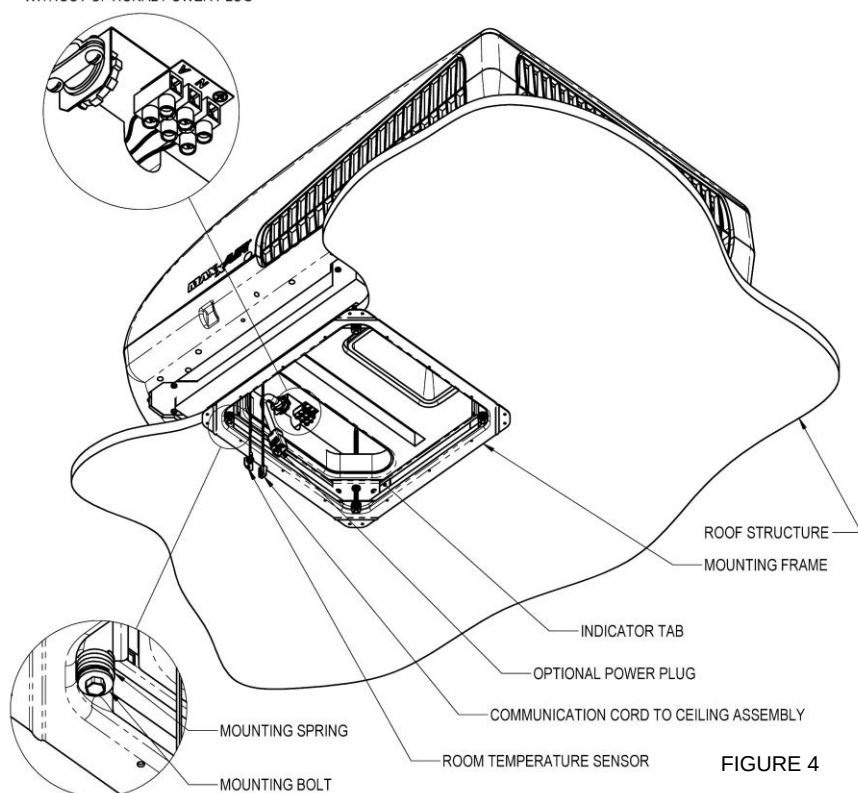

FIGURE 4
V. SECURING THE HEAT PUMP TO THE ROOF (See Figure 4)
See Figure 4